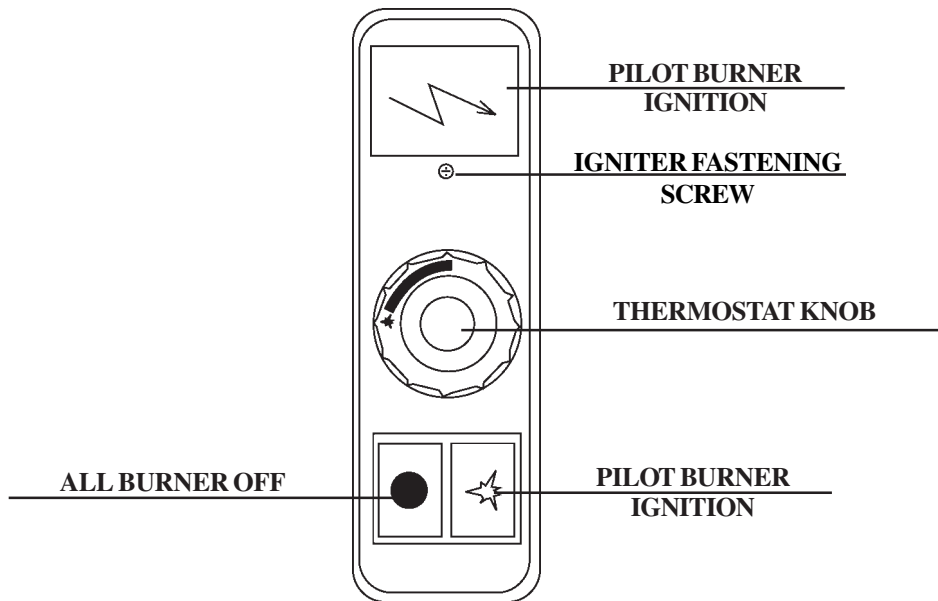

Fig. 9
ATTENTION : The buttons must be as indicated in Fig. 9, do not forget the thermocouple interruption!
5.1 IGNITING THE PILOT (FIG. 9)